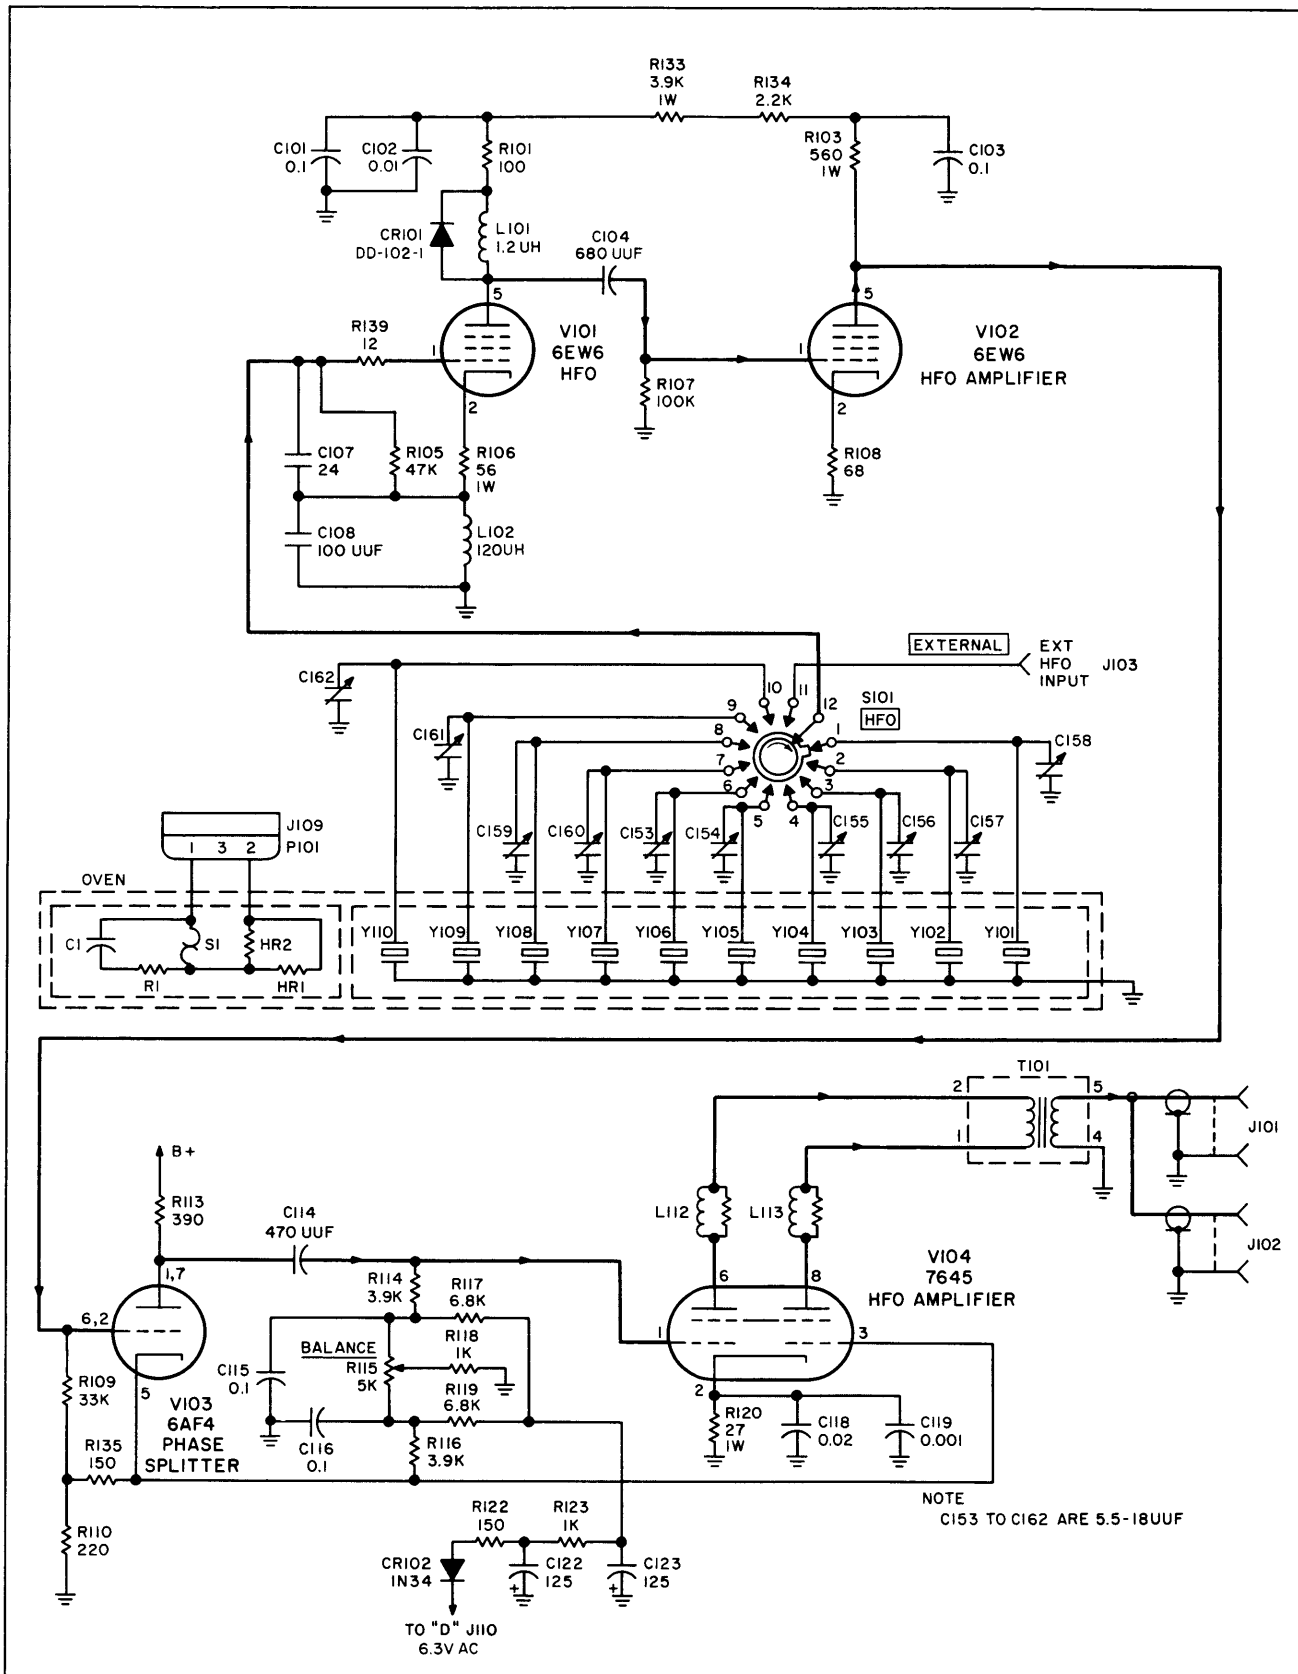

Figure 4-3. Simplified Schematic of HFO Circuitry
a. CIRCUIT ANALYSIS. (See figure 4-3.) - The HFO circuitry consists of HFO V101 with its ten associated crystals and amplifiers V102, V103, and V104. The exact operating frequencies of V101 depend on the types of crystals used in place of Y101 through Y110. The HFO range is usually